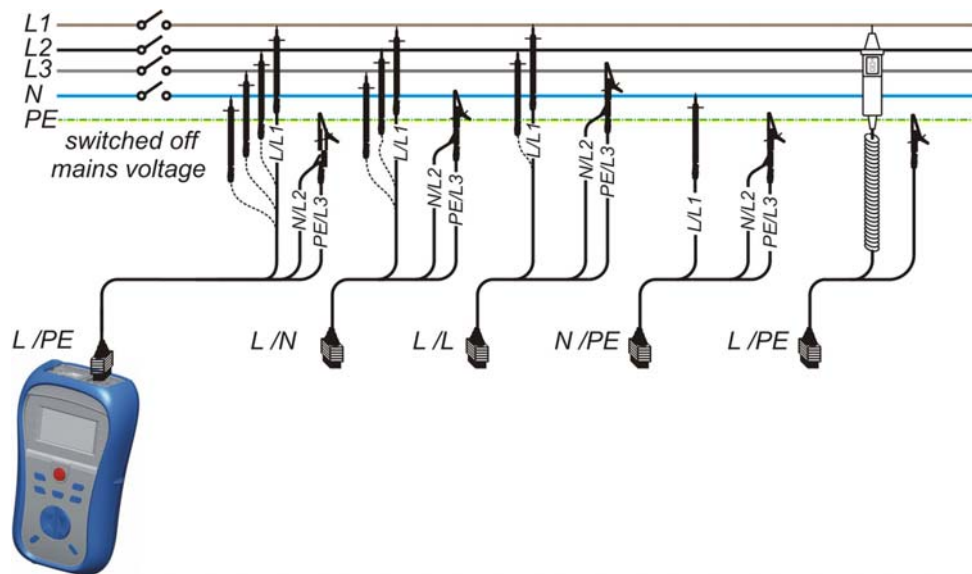

Figure 5.9: Connections for insulation measurement
- ❑ **Connect** test cable to the instrument and to the item to be tested (see Fig. 5.9).